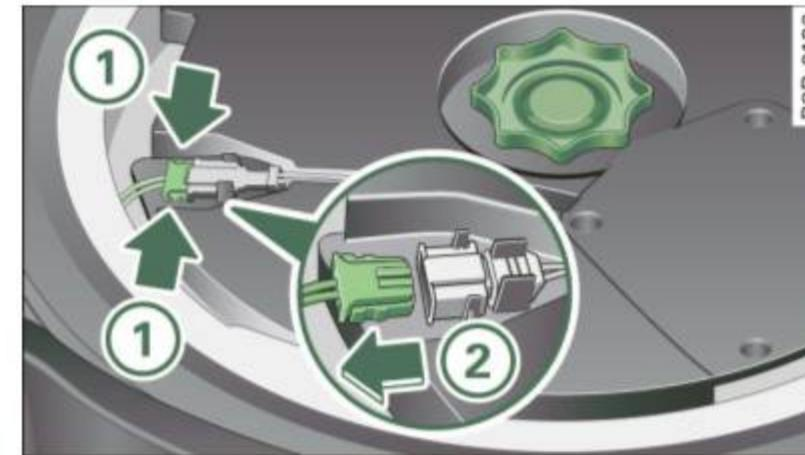

Fig. 217 Spare wheel well: Bass box
- Squeeze the locking tabs ⇒ fig. 217 ① of the connector.
- Disconnect the connector ② and place the lead to one side.